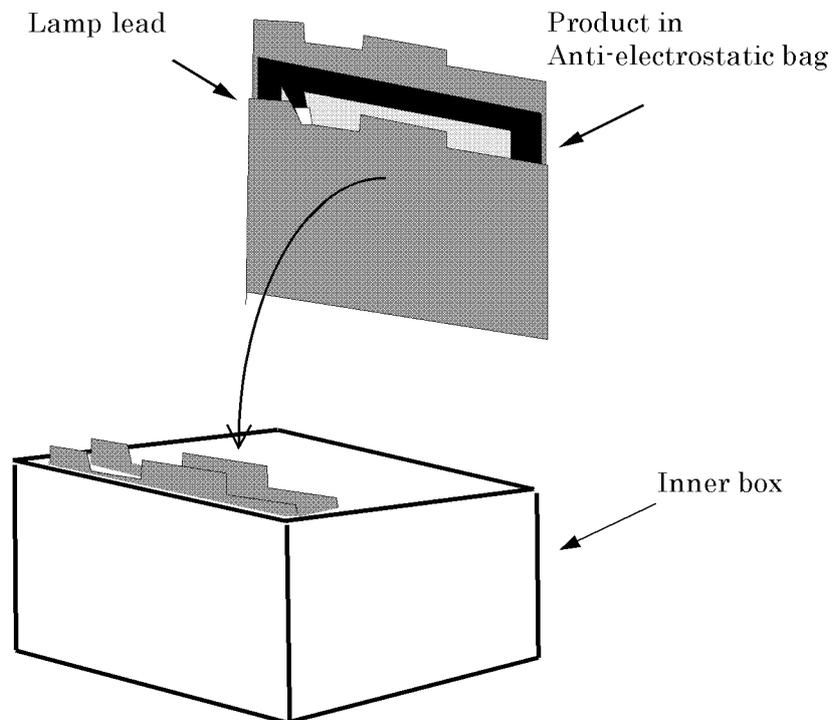

Fig.8
- Packed LCD module is put in the packaging box.(Fig.8)